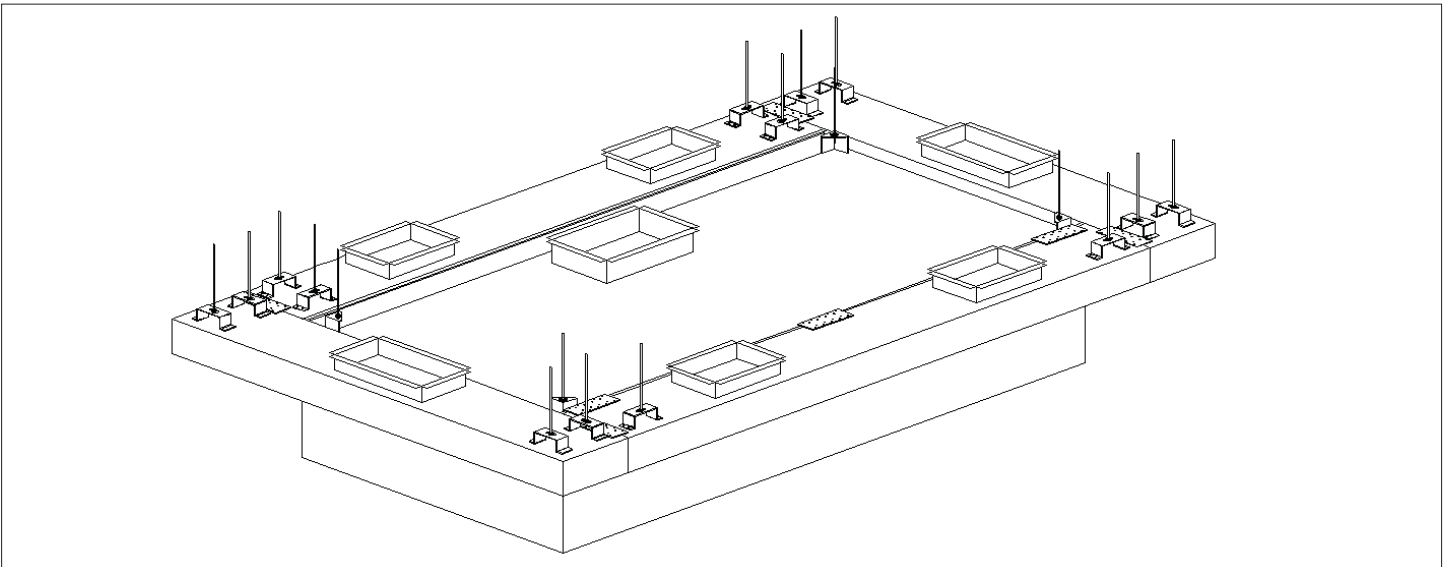

FIGURE 12
11. Caulk the seams between the hood(s) and each PSP assembly, as well as between adjacent PSP assemblies (if applicable) after the hood(s) and hood accessories have been installed. An isometric view of the hood assembly for a model PSPFBSS is shown in **Figure 12.**